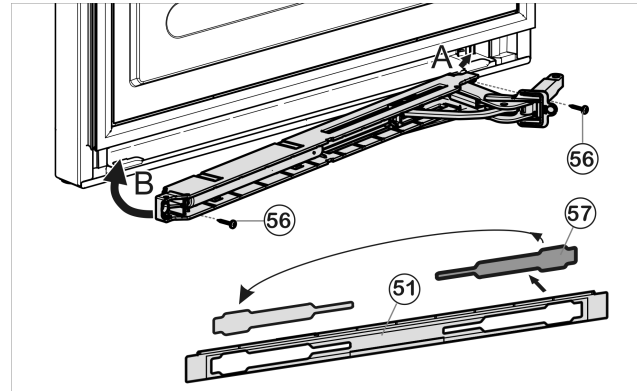

Fig. 23
- Loosen cover *Fig. 23 (57)* from the panel *Fig. 23 (51)* and insert on the other side.
- With the hinge of the soft stop unit facing the door hinge side, engage the soft stop unit (A) and swivel inwards (B).
- Tighten soft stop unit (2 x Torx 15) *Fig. 23 (56)*.